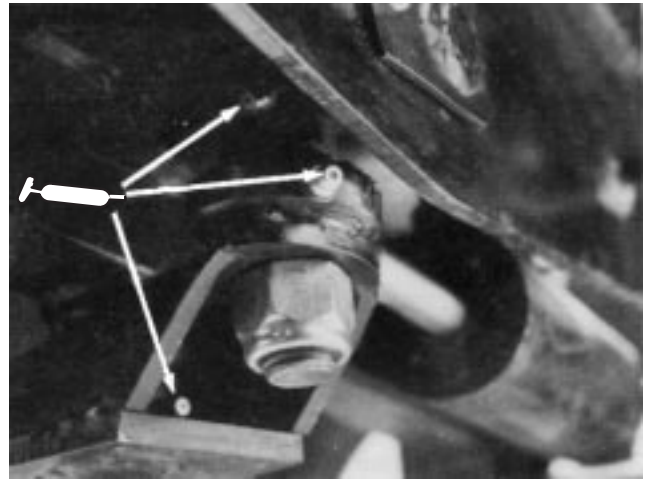

Figure 34
- Steering plate bushings (Fig. 34)
- Axle pin bushing (Fig. 34);